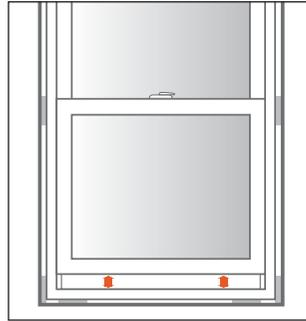

fig. 31 - Single/Double-Hung
a. Unlock and fully open sash, then close sash until it is open 1/2". The gap should be equal on the Single-Hung and Double-Hung from right to left and on the slider top to bottom. **(fig. 31 & 32)**